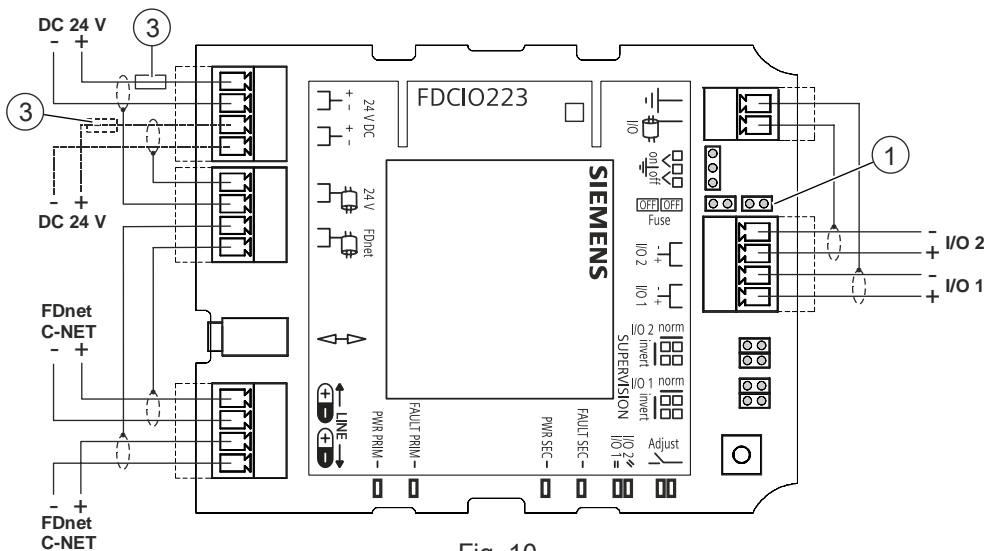

Fig. 10
1. Connect the cables to the terminals according to the pin assignment (Fig. 10). Only connect **one** wire per terminal.
2. Fuse the DC 24 V external supply with a fuse (3) of max. 2 AT.